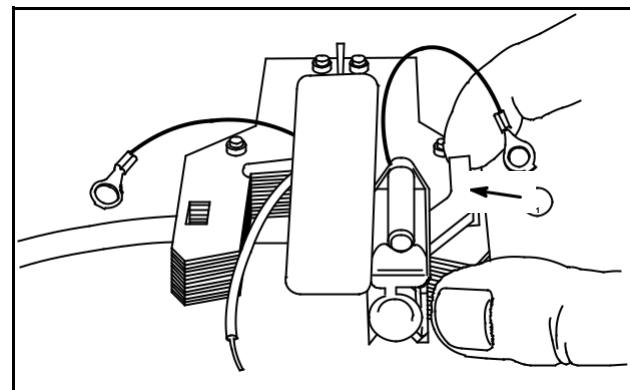

Fig. 13
4. Lift module retainer (1) and push module off laminations, Fig. 13.